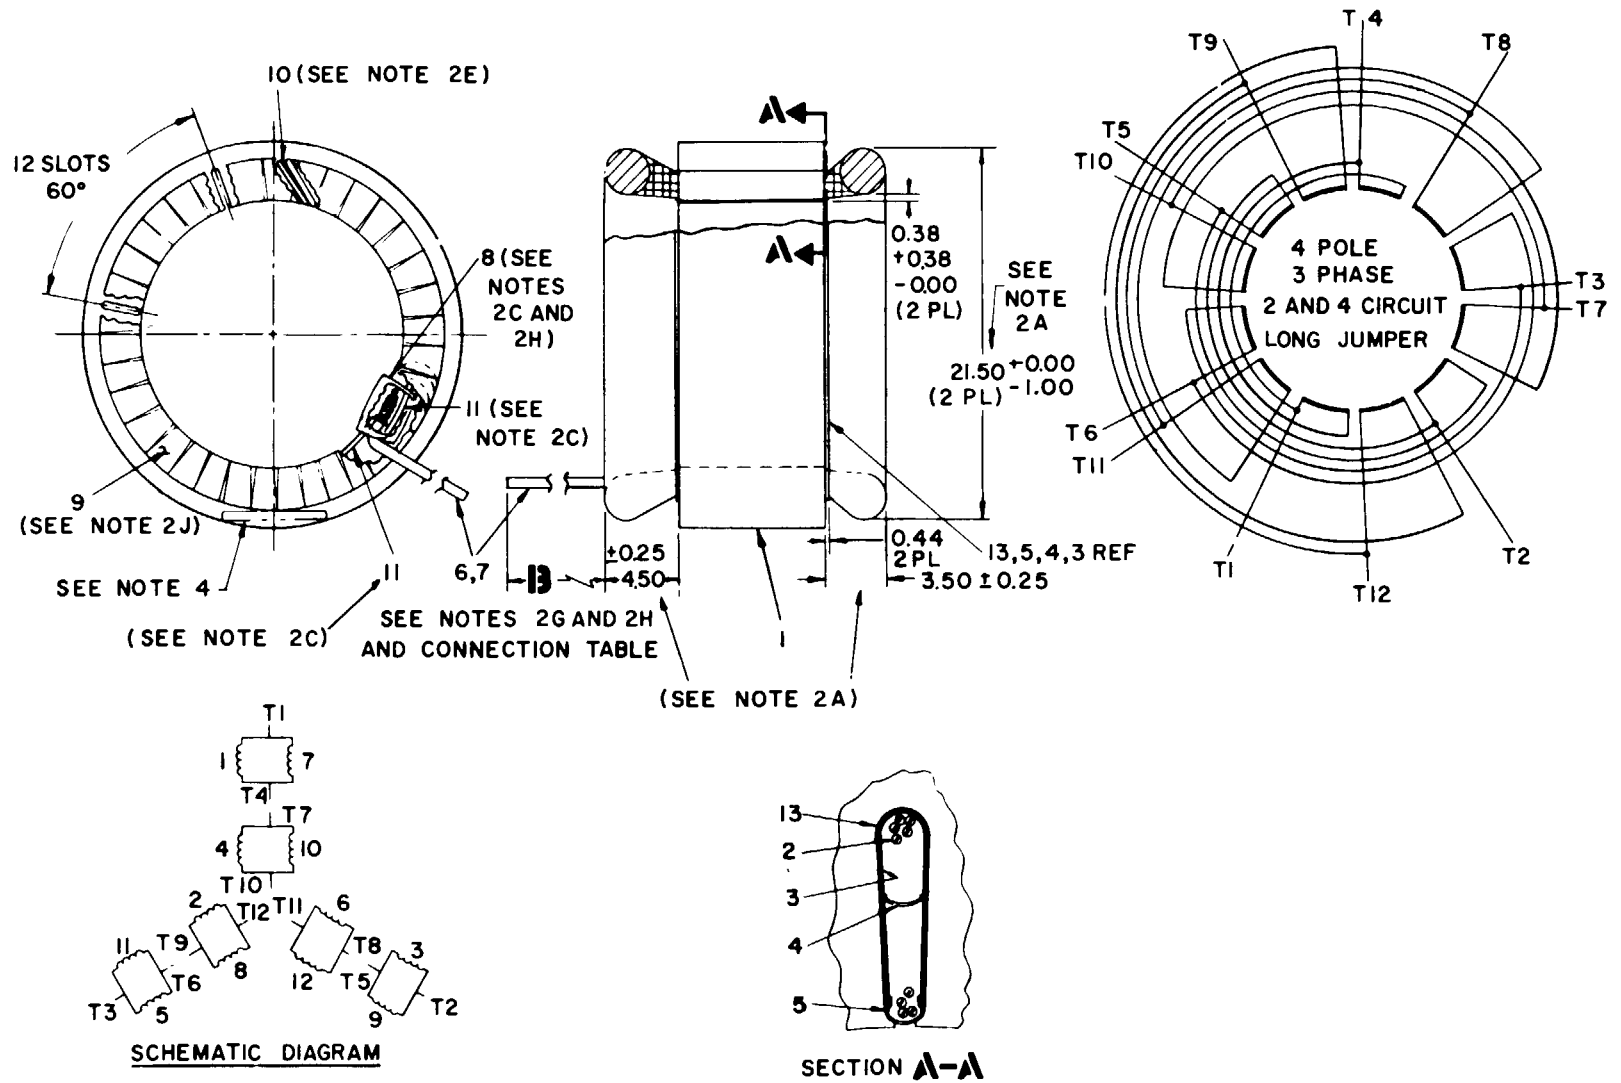

Figure 7-2. 50/60 Hertz generator, main stator rewind data
d. Repair or rebuild main stator assembly as specified in figure 7-2 for 50/60 hertz generators or figure 7-3 for 400 hertz generators.